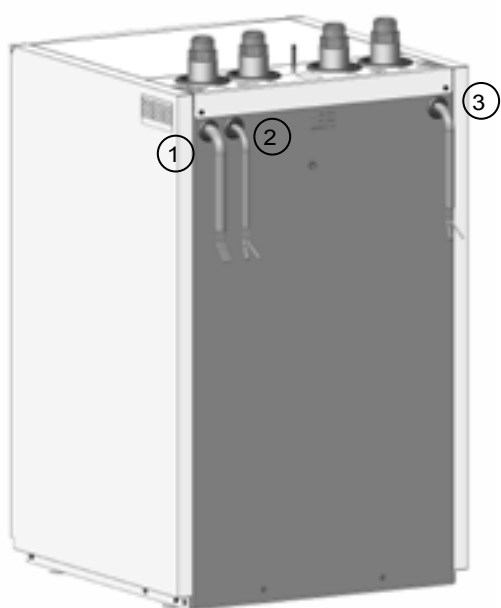

Fig.1
The main heat pump supply must pass through the grommet ① (Fig. 1) then connect to the EMC filter, following the cable route indicated by the dotted lines on Fig. 2 and through the collar.